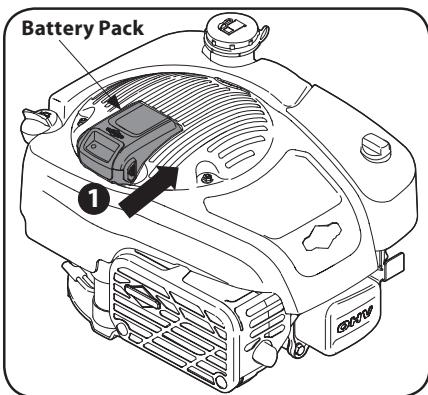

Figure 3-3
- Check the battery tray on top of the engine for debris and if dirty clean with a brush or cloth. Push the battery pack into the battery tray until it clicks on top of engine. See Figure 3-3.